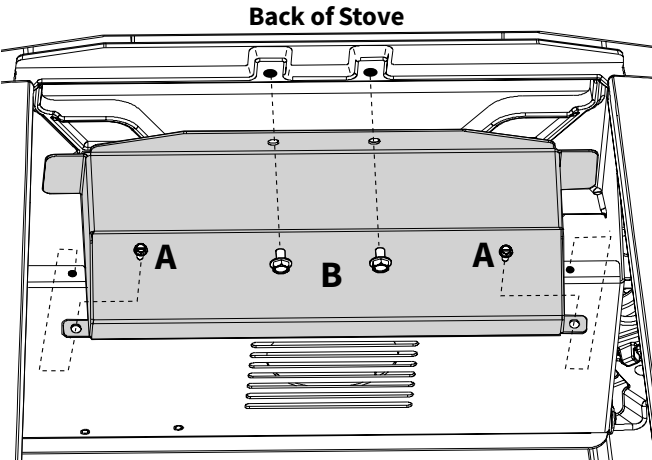

Figure 11.8. From the back of the stove, secure Blower Shroud to the stove bottom.
4. Attach the Blower Shroud to the side flanges at the rear of the cabinet floor using the two #8 X 12 mm sheet metal screws. See Fig. 11.8, (A).